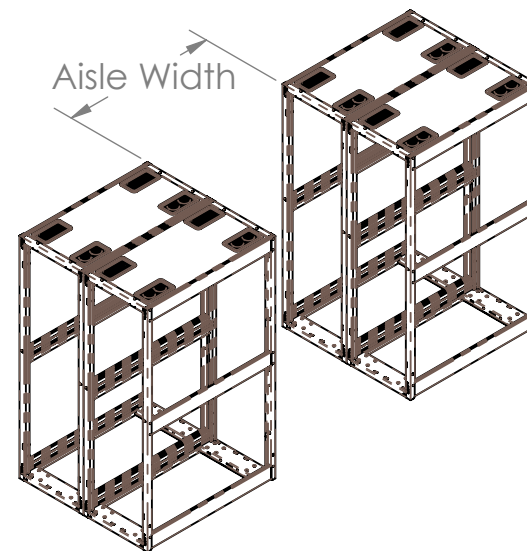

Figure 2
1. Confirm cabinet aisle width shown in Figure 2 is compatible with the EOR panel assembly (14625-XXX) .